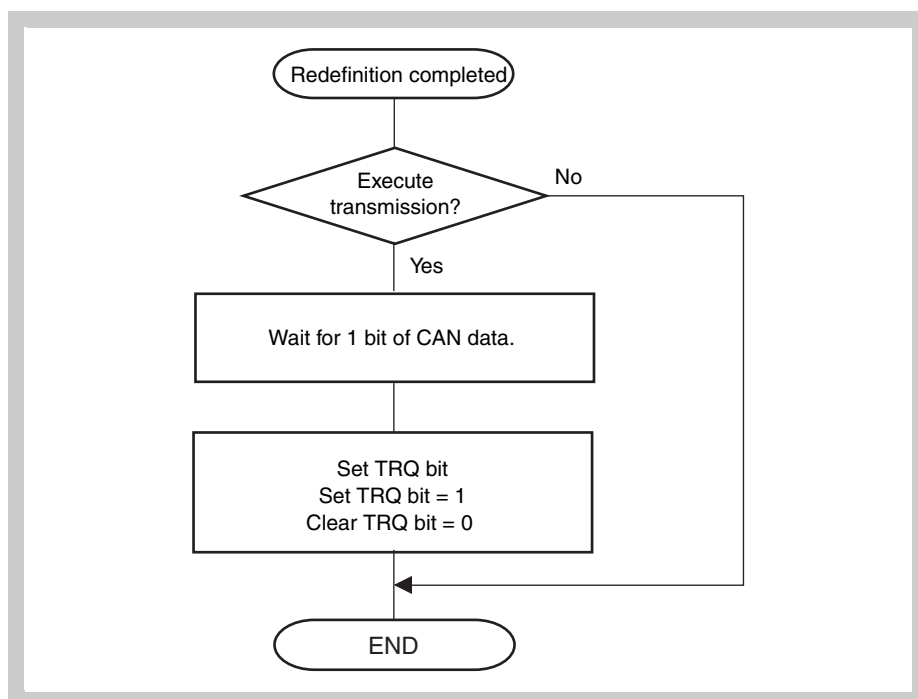

Figure 18-26 Setting transmission request (TRQ) to transmit message buffer after redefinition
2. When a message is transmitted, the transmission priority is checked in accordance with the ID, IDE, and RTR bits set to each transmit message buffer to which a transmission request was set. The transmit message buffer having the highest priority is selected for transmission. If the procedure in *Figure 18-26 on page 779* is not observed, a message with an ID not having the highest priority may be transmitted after redefinition.